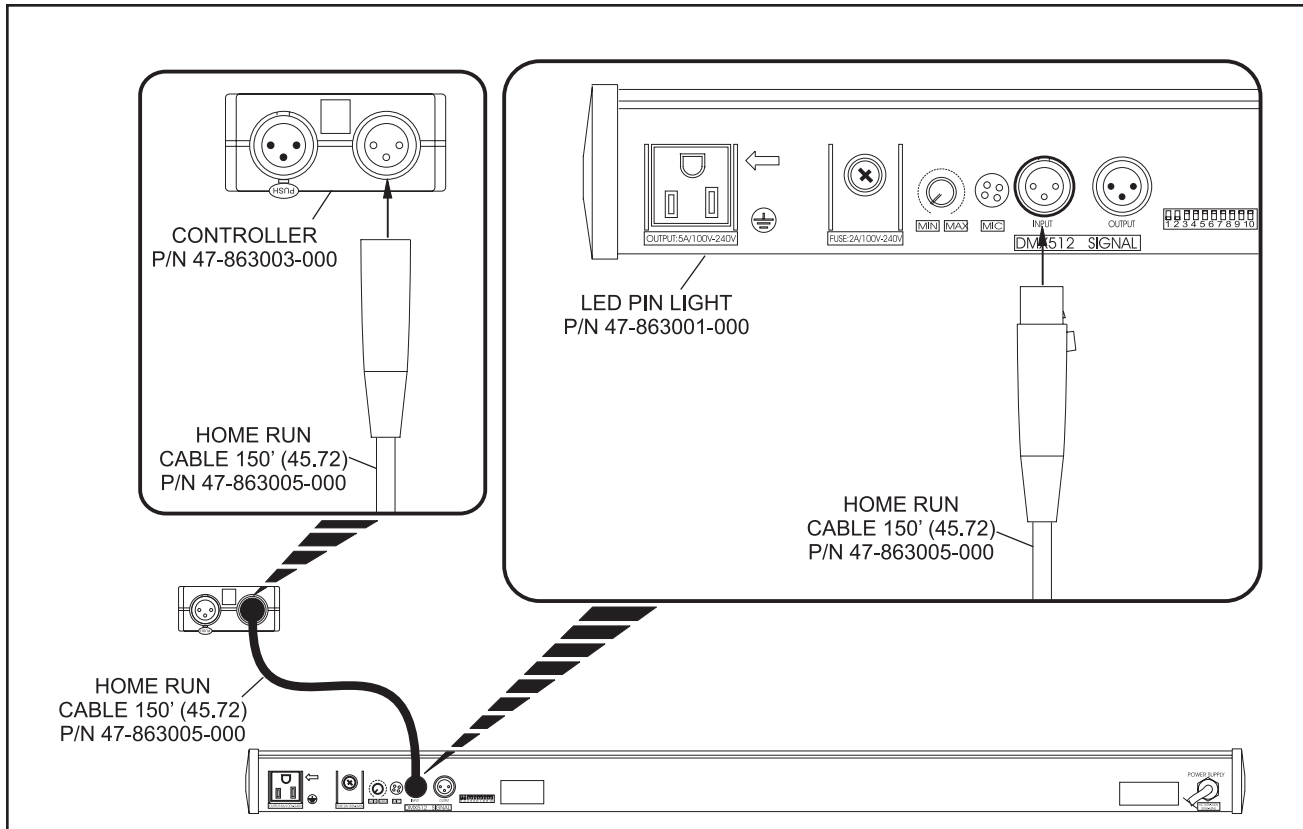

Figure 9
1. Connect the male end of the 150' (45.72 m) home run cable to the "Communication Output" port on the controller (P/N 47-863003-000). Refer to *Figure 9*.